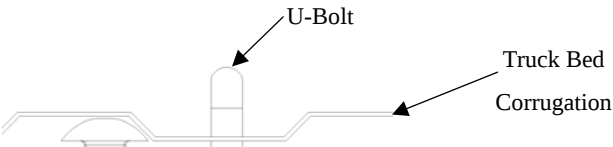

FIGURE 5
GOOSENECK SAFETY CHAIN U-BOLT AND BALL INSTALLATION - Figures 5 & 6
- 3. Using the U-Bolts slots as a guide, from underneath the truck, mark and center punch the position of the 4 holes in the truck bed that the safety chain attachment U-bolts will be routed through. **THESE HOLES MUST BE IN A LOWER BED CORRIGATION TO LIMIT THE AMOUNT OF THE U-BOLT SHOWING ABOVE THE BED. SEE FIGURE 5.** Then drill 4 pilot holes with a 3/16" drill bit before enlarging these holes to 11/16". Touch up the dilled holes with paint.